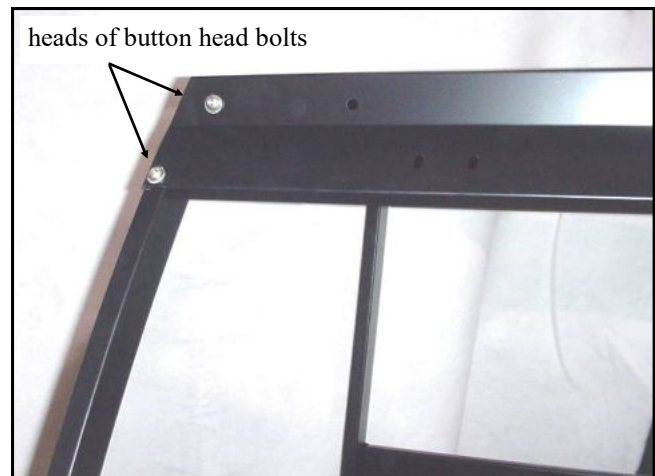

Fig. 11.1
11.1 With assistance, install the windshield support using a total of four button head bolts $5/16 \times 3/4$ " long, four plastic washers, six steel washers, and two locknuts. Two of the four bolts go into factory installed threaded inserts in the side frame as shown in fig. 11.1. All four bolt heads to be facing towards the front of the vehicle. Note: there will be a top hole on each side that will not get hardware until the roof is installed on the next page (step 14).